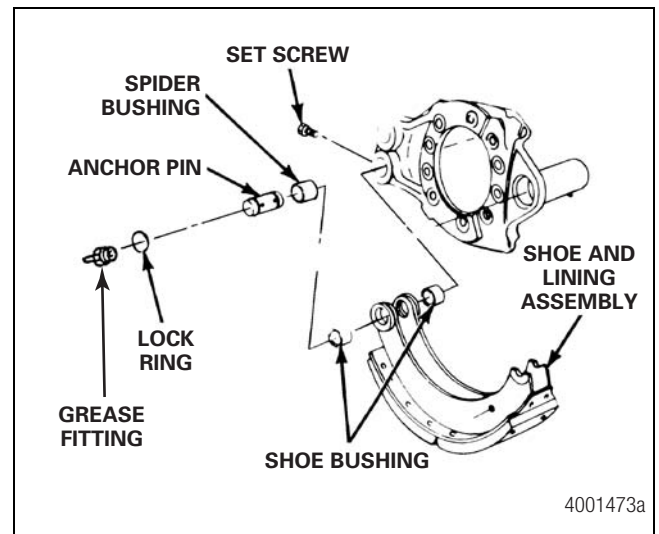

Figure 5.28
- A. **For a straight anchor pin with a lock ring and set screw**, place the anchor pin through the shoes and into the shoe side of the spider. Align the hole in the pin with the set screw hole in the spider. Figure 5.28.